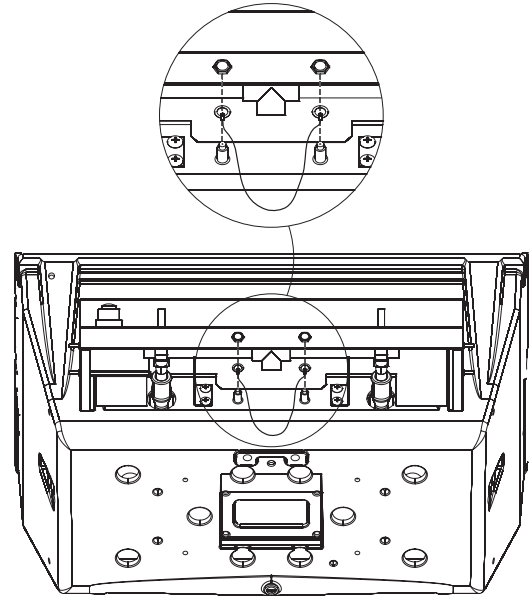

Figure 7
- Attach ignitor ground wire ends onto ground lugs. Slide ground lugs (12) over ignitor wires and onto collector box assemblies. Slide nuts over ignitor wires and secure collector box assemblies to grill. See Figure 7.